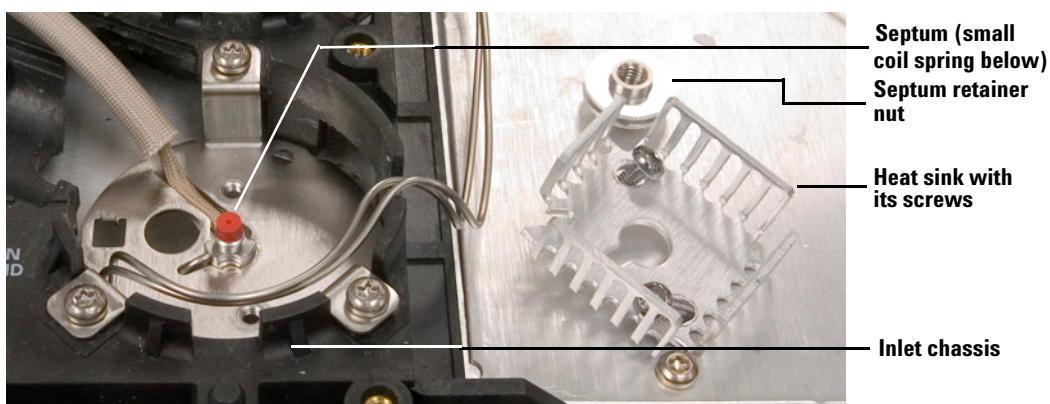

Figure 10 Inlet preparation
- 13 Referencing Figure 10 on page 9, in the following order, replace the heat sink, coil spring, septum, and septum retaining nut on the inlet.